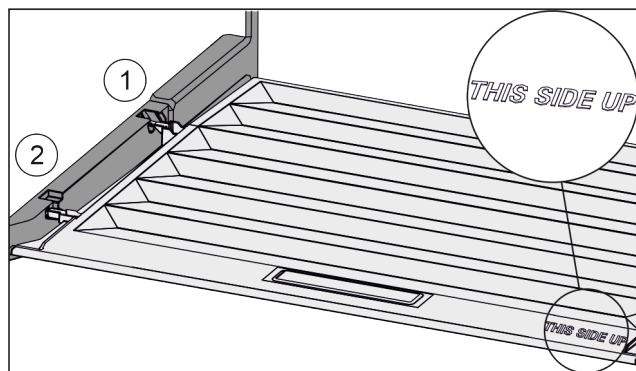

Fig. 42
- Insert the lip of the cover over the opening of the rear bracket Fig. 42 (1) and click into place Fig. 42 (2).